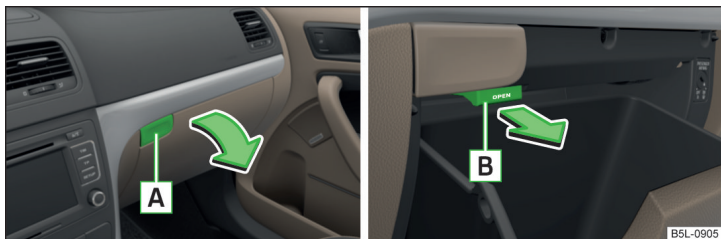

Fig. 88 Open storage compartment / open air supply
- > To open, press the -- button. The cover folds in the arrow direction » Fig. 88.
- > To Open pull the lever **B** in the direction of the arrow to the stop » Fig. 88.